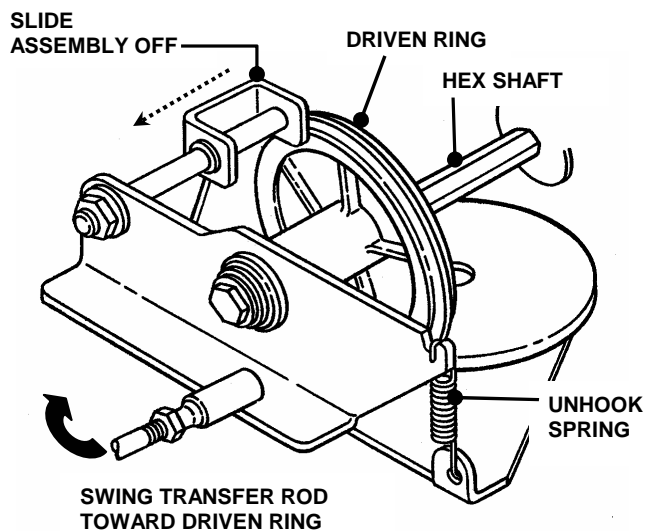

FIGURE 4.7
1. Remove the clip from the transfer rod. Then remove the transfer rod from the clip and the speed control rod and swing rod towards driven ring. See Figure 4.7.
3. Unhook the driven disc spring and slide the driven disc assembly off the hex shaft. See Figure 4.7.
2. Unhook the idler spring and driven disc spring. See Figure 4.7.